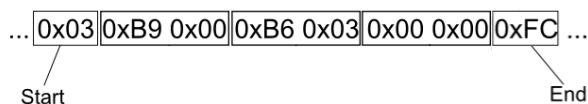

Figure 4: Data Stream Order of Bytes
For this protocol, there is a **specific order** in which you need to transmit the data, as shown in Figure 4. Note that in this figure, the values in between the "start" and "end" bytes are just arbitrary example values.
1. Transmit the start byte. The example in Figure 4 used 0x03. You can use other values, but the stop byte **HAS** to be the opposite of the start byte.
3. Transmit the stop byte. Remember this must be the opposite as the start byte. If the start byte is 0x03, the stop byte must be 0xFC, as seen in Figure 4.